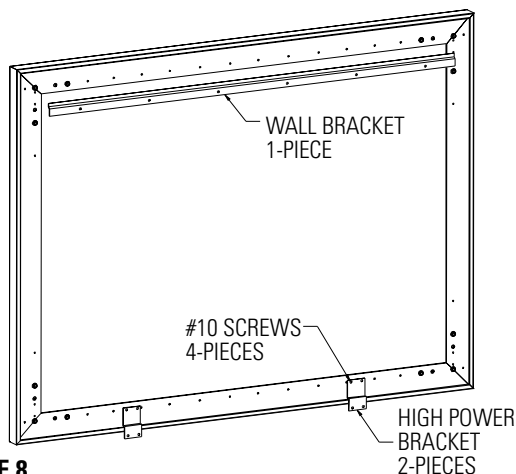

FIGURE 8
1. Secure the wall bracket to wall studs at the desired height. Make sure the bracket is level. The top of the frame will be 1/8" above the top of the wall bracket when mounted. You will need at least 5/8" clearance above the bracket to hang the screen. See figure 8.